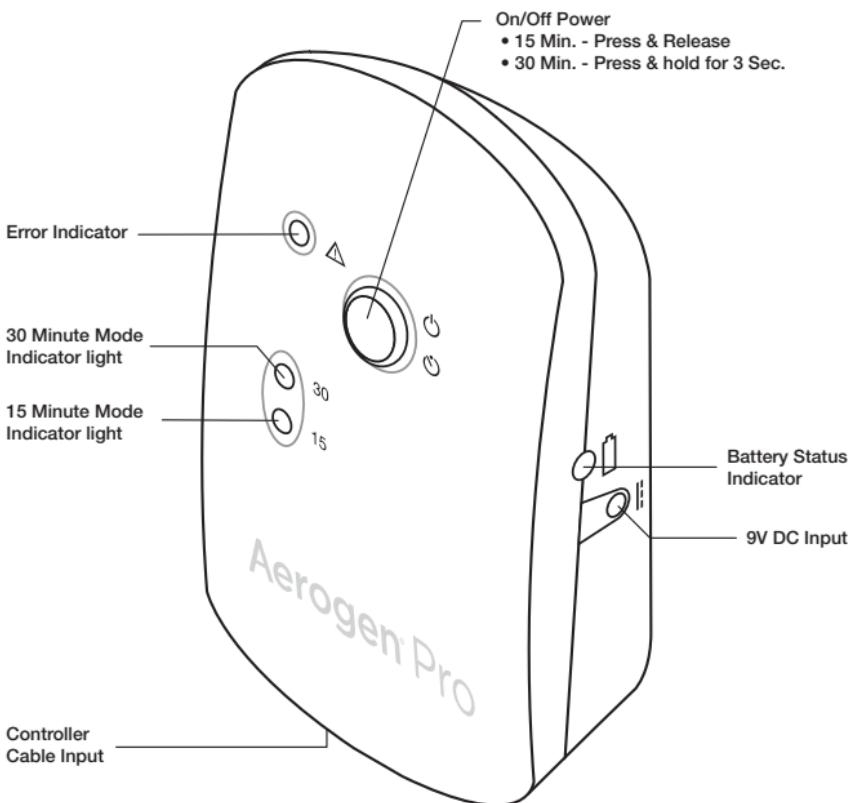

Figure 2. Aerogen Pro Controls & Indicators
1. To start a 15 Minute nebulisation cycle, add the medication and press and release the blue On/Off power button (Figure 2). The green 15 Min. indicator lights to indicate that the 15 Minute nebulisation cycle is in progress.